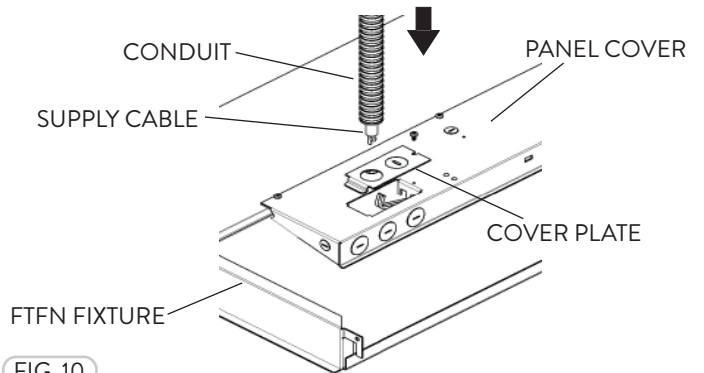

FIG. 10
- 6 Run a Power Supply Cable through a Conduit and install all wiring connections inside the Panel Cover of the FTFN fixture. Attach the wiring access Cover Plate. Please see wiring instructions (Fig. 10). Refer to the wiring diagram.